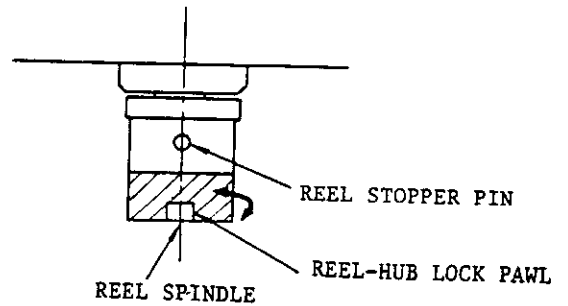

Fig. 5.7
The reel hubs are mounted on the reel spindle, and serves to receive and arrest tape reels on them. See Fig. 5.7.
3. Turn the reel hub until the lock pawl is aligned with the stop pin. (See Fig. 5.7.)